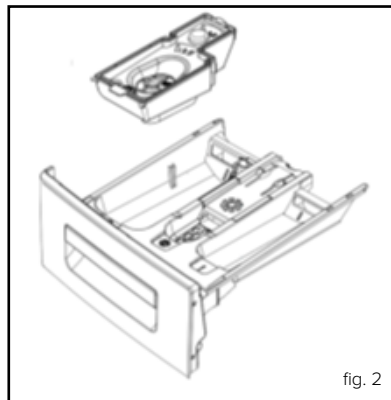

fig. 2
- Select the required adjustments and additional functions using the buttons “B” to “G” in fig 2. as detailed below.